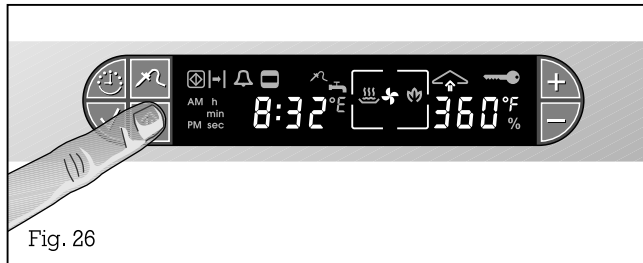

Fig. 26
- Press the ⬆ (Steaming / Condensing) key (Fig. 26).